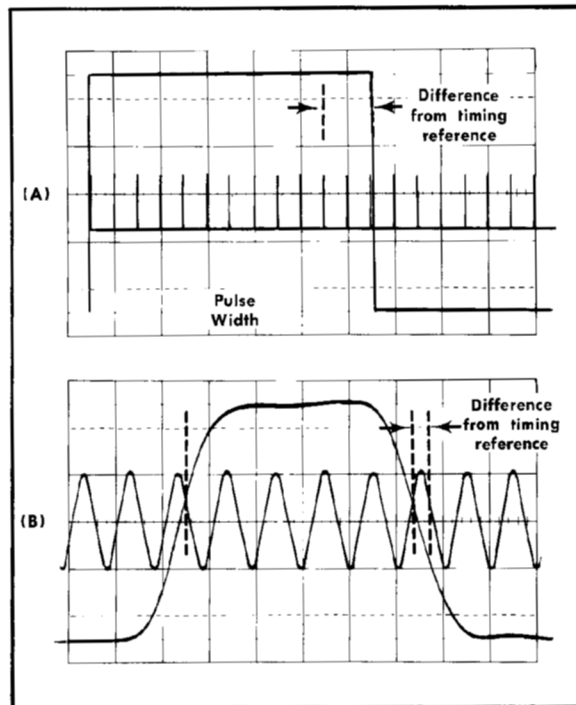

Fig. 5-18. Typical test oscilloscope displays for checking pulse width: (A) 500- $\mu$ s pulse width; (B) 50-ns pulse width.
- Center the two displayed waveforms vertically and position the Type 115 output pulse rise to the 1 cm vertical line on the CRT screen (see Fig. 5-18).